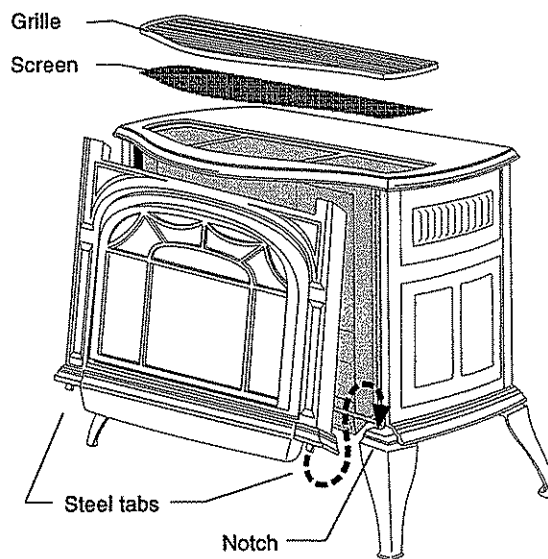

Figure 24. Install the screen, grille, and front plate.
4. Replace the top. Fig. 24. The top plate simply rests level on the sides. You do not need to reinstall the nuts and washers onto the studs in the top plate. Place the screen and grille into the recess.
5. Replace the front. Fig. 24. Engage the upper edge of the front plate under the lip of the top plate, then set the lower end down. The two steel tabs should engage the notches at each side.